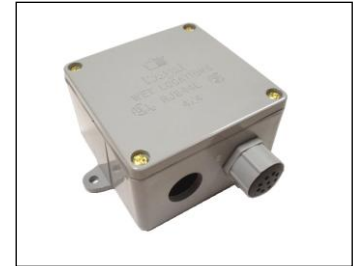

Fig.11 – S2020E1000
**S1010E1000**, residential style outside air temperature sensor, capsule type. (see Fig. 11) (wiring diagram next page)